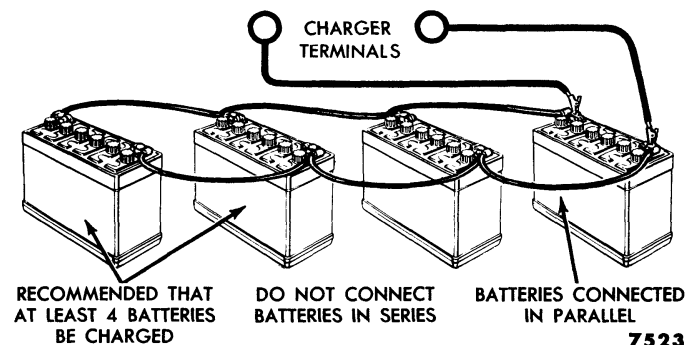

Fig. 34—Slow Charge Procedure
(2) **SLOW CHARGING.** When a fast charger is used for slow charging, connect the batteries in parallel (fig. 34).